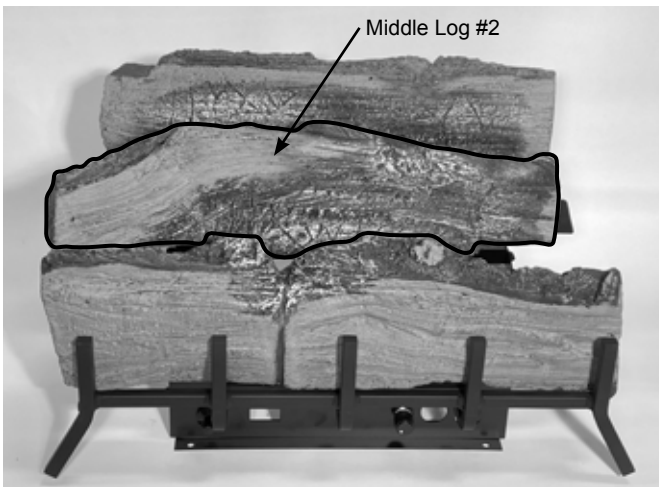

Figure 6.3 - Place Middle Log
3. Place Middle Log (#2) on middle support. Log will sit on right side of support. Rest bottom left corner on front log in notch. Figure 6.3